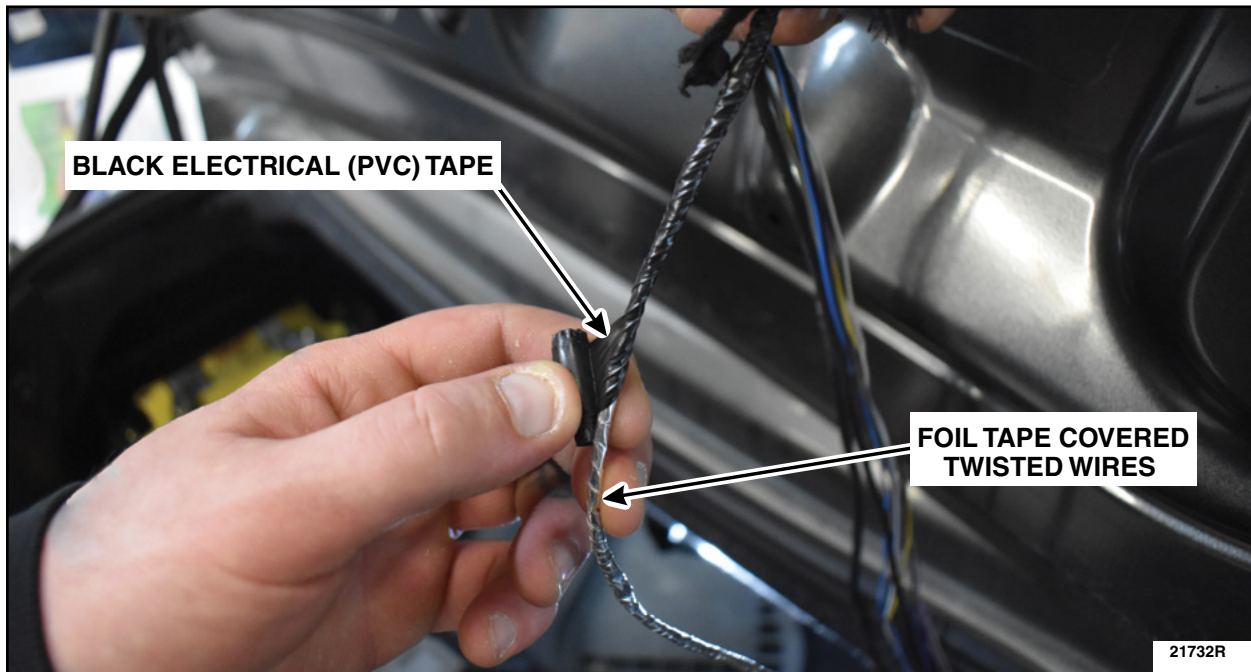

FIGURE 18
27. Wrap the full length of the foil tape covered twisted wires using KT173510 or equivalent black electrical (PVC) tape over lapping by 50 percent. See Figure 18.